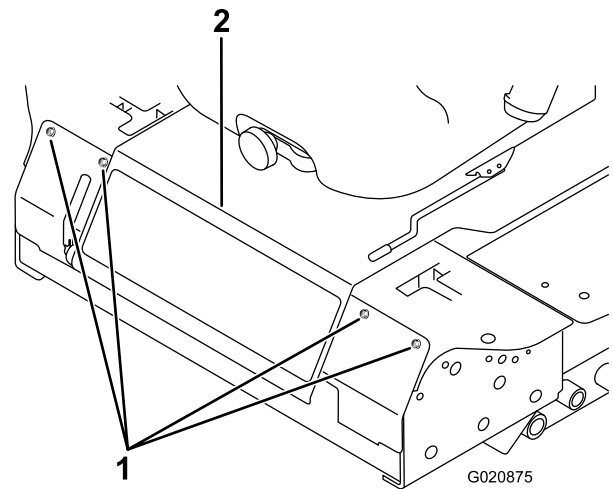

Figure 55
3. Remove the bolts securing the front panel and remove the panel (Figure 55).